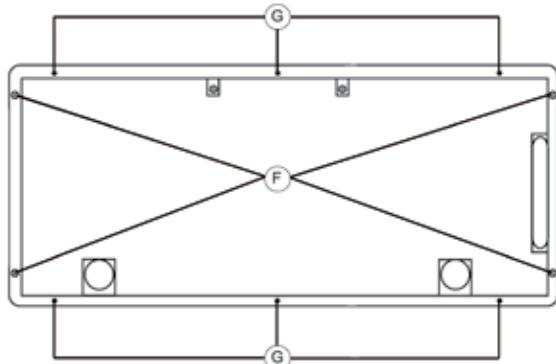

FIGURE 9
6. Fix the rangehood to the cabinet or custom hood using the four spring loaded brackets, two on each side of the rangehood. Using a philips screwdriver or drill, tighten the adjustment screws (**F** in **FIGURE 9**) until the brackets adhere tightly to the surface.
7. IMPORTANT: There are 6 holes (**G** in **FIGURE 9**) for screws (not provided) to reinforce the rangehood to your cabinet or custom hood. Use screws appropriate for the size and type of materials of your cabinet or custom hood.